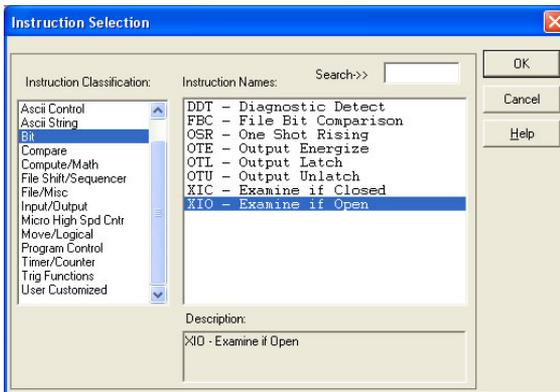

Figure 117: XIO Instruction Selection
- b) Select the "XIO" instruction from the "Bit" classification, then click OK. Refer to Figure 117.